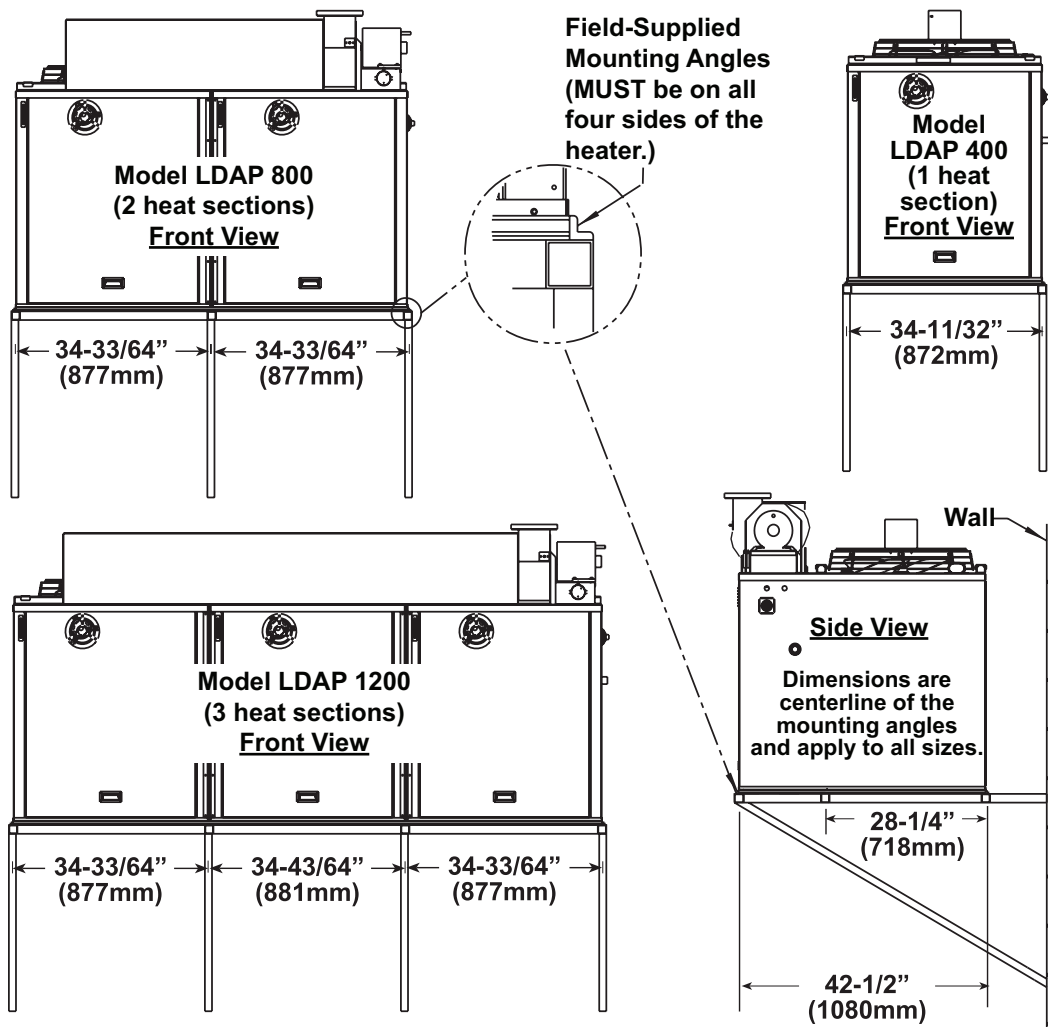

Figure 8. Wall-Mounting
The heater may be attached to a wall. Place supports as shown in Figure 8 and comply with all of the following guidelines:
- Structural supports must be placed as shown in Figure 8 to prevent damage to the heater.